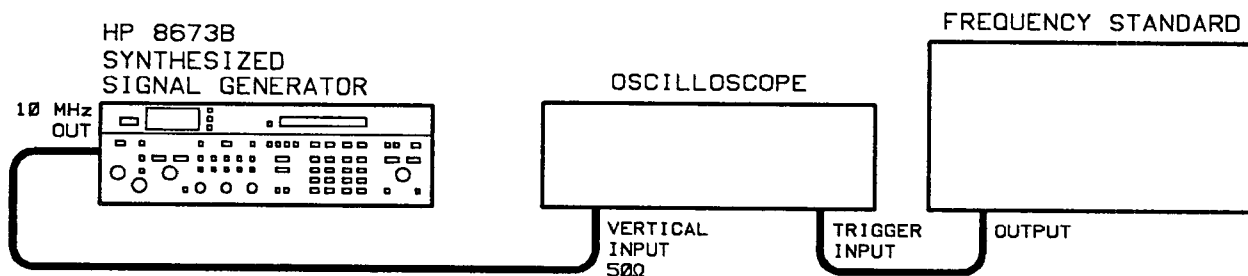

Figure 5-5. 10 MHz Reference Oscillator Adjustment Test Setup
2. Connect the equipment as shown in figure 5-5. Set vertical input of oscilloscope for 50Ω input impedance.